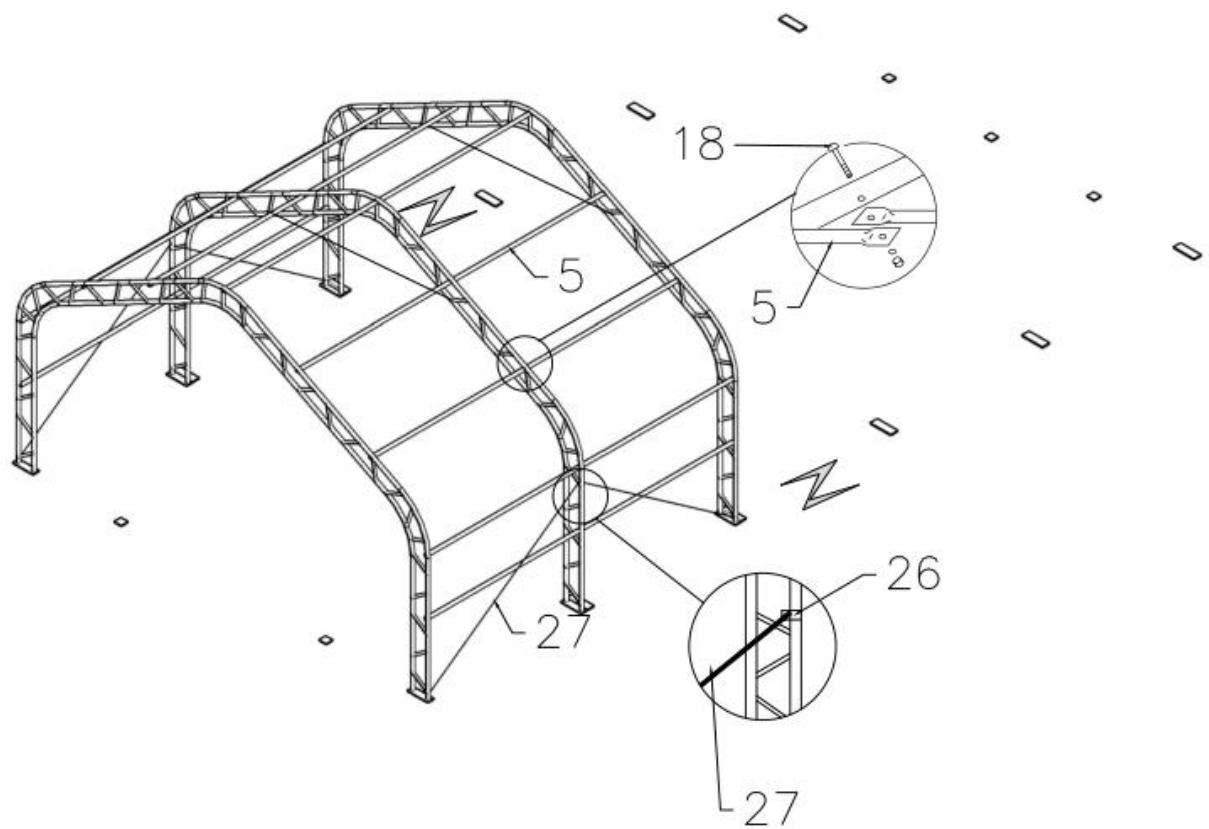

Figure 5
3.Connect Purlin(No.5) to arch by using Carriage bolt M8*80mm (No.18) by turns(see Figure 5),then connect the Steel wire(No.27) on top and side by using Clip(No.26) (see Figure 5).